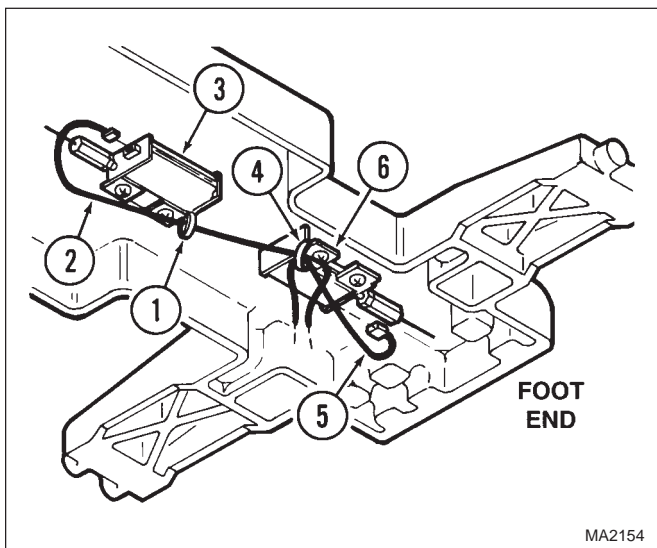

Figure 4-28. Disconnecting Wire Harnesses
(14) Remove two screws (12) and back clevis (9) from seat casting (13).
(15) Cut cable tie (1, Figure 4-28) which secures wire harness (2) to back transducer (3).
(16) Cut cable tie (4) which secures wire harnesses (2 and 5) to foot transducer (6).
(17) Tag and disconnect wire harness (2) from back transducer (3).